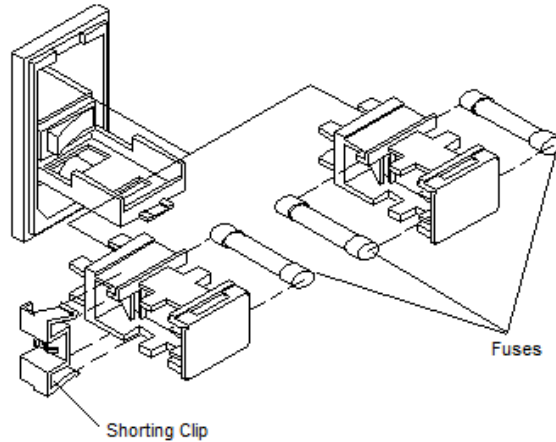

Figure 3-3B. Shorting Clip and Fuses
- For line-to-neutral operation, use either the shorting clip and one fuse, or use two fuses. (The shorting clip will be on the left side of the drawer when rotated to the correct voltage position as shown in Figure 3-3B.) For line-to-line use, discard the shorting clip and use two fuses (see Parts List Section for part numbers).